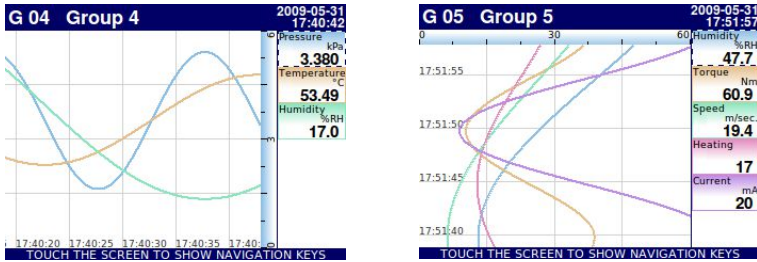

Fig. 6.8. Examples of **Horizontal** (for 3 channels) and **Vertical Charts** (for 5 channels)
- as horizontal charts Fig. 6.8
- as vertical charts Fig. 6.8